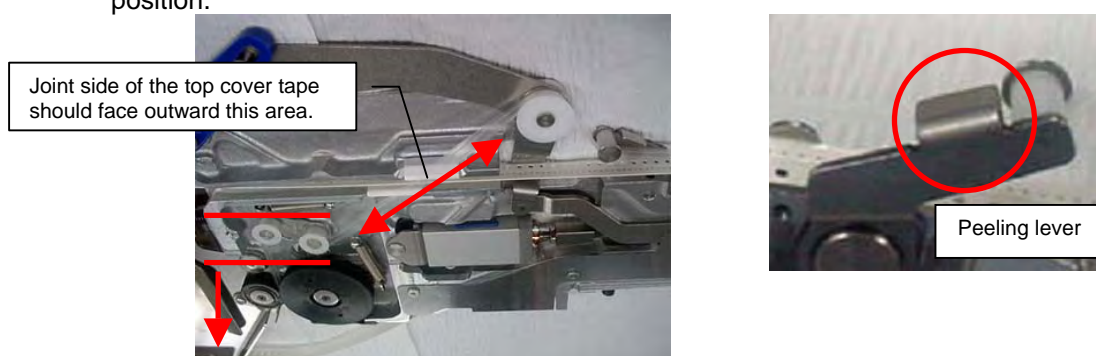

Fig 10
5. Pull down the top cover tape until the two rollers become level.(Fig 10 Left)
6. Push the bending part of the peeling lever(Fig 10 Right) to feed the component to the pickup position.